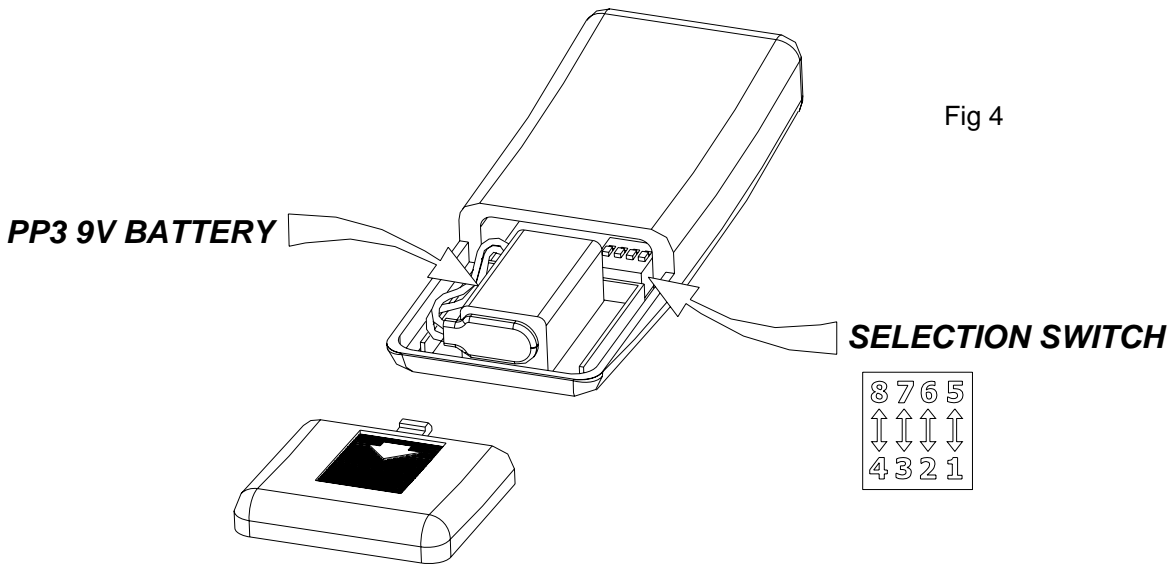

Fig 4
- Set the transmitter selection switch to the same number sequence as used for the Multivent receiver, see Fig 4.